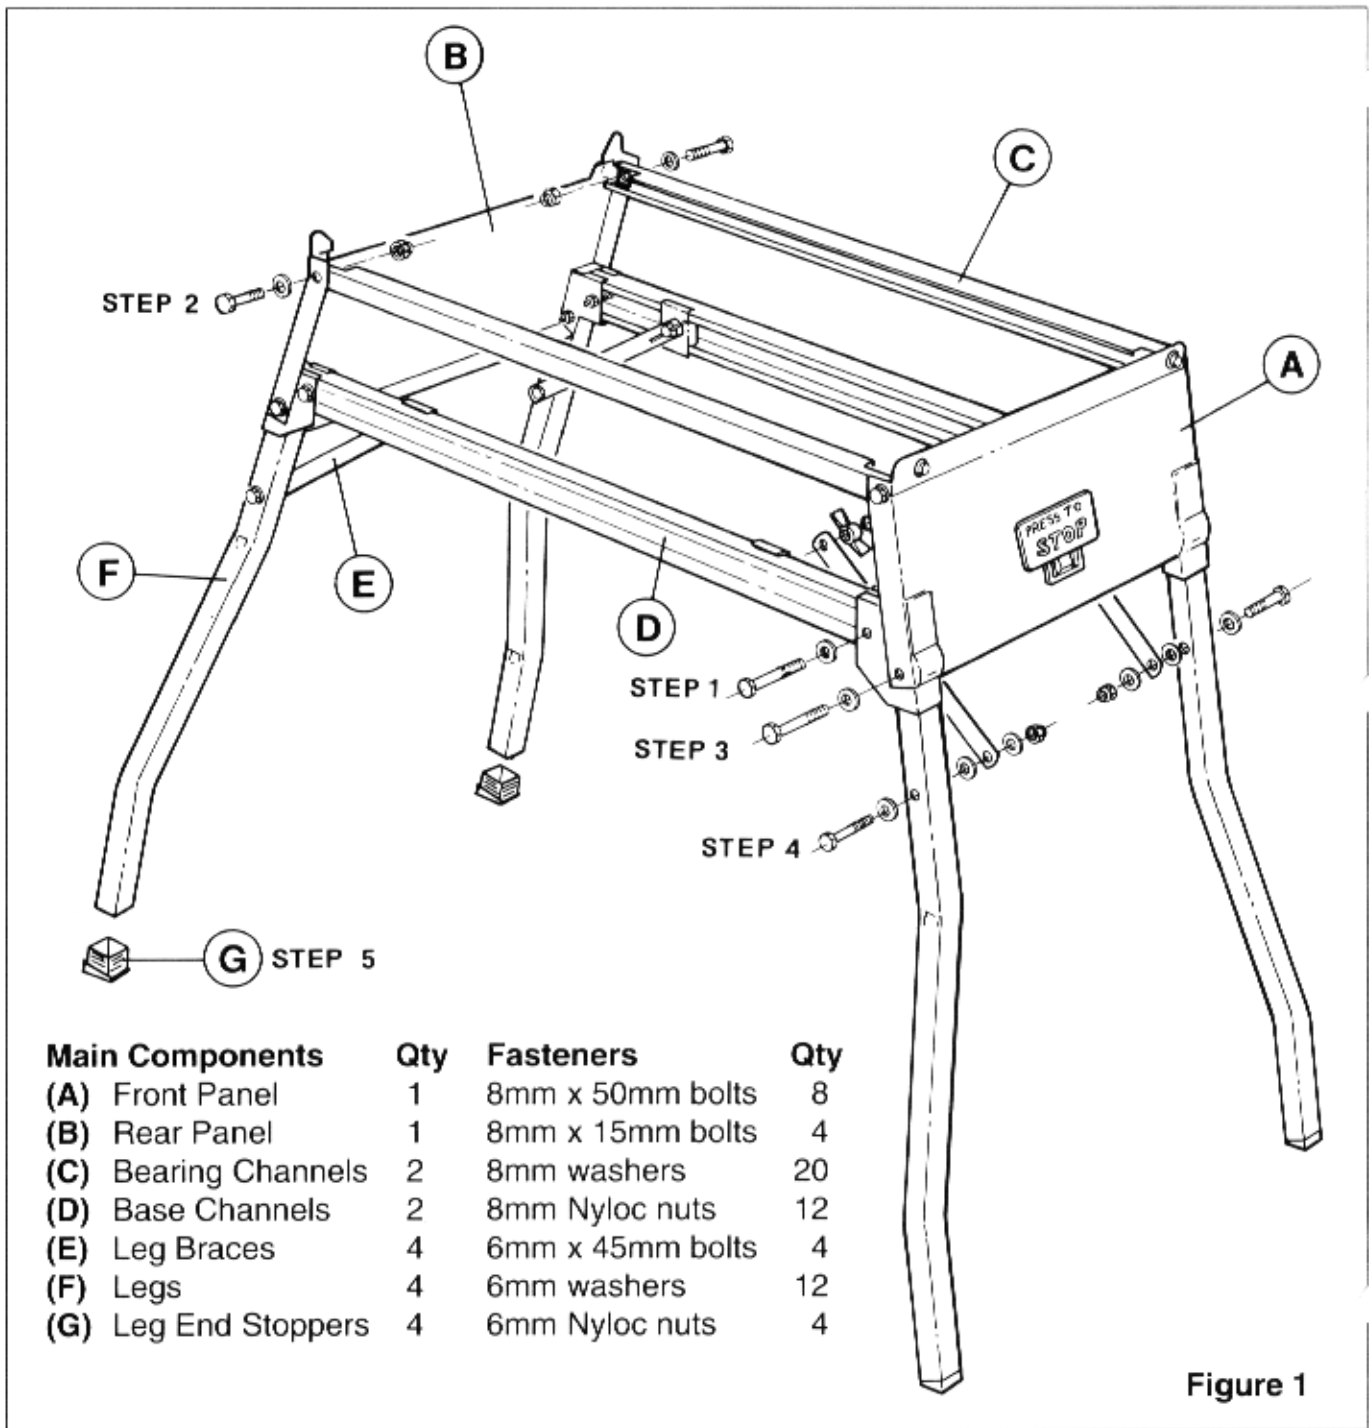

Figure 1
Fit the Base Channels (D) between the Front Panel (A) and the Rear Panel (B) as shown in Figure 1 and fit four 8mm x 50mm bolts where labelled "Step 1".
Turn the unit upside-down for Steps 3 and 4. Fit the four legs (F) as shown in Figure 1, making sure they angle outwards. Fit the remaining 8mm x 50mm bolts where labelled "Step 3". Fit 8mm washers under the bolt heads and also under the Nyloc nuts. Tighten firmly, but make sure you do not overtighten and deform the leg brackets. The legs must be firm, but still free to pivot.
Fold the legs out to the fully open position. Loosen the butterfly handles on the clamps fitted inside the base channels, and swing the Leg Braces (E) into position. Fit the four 6mm x 45mm bolts through the legs and leg braces where labelled "Step 4" on Figure 1.
Lift each leg in turn and fit the Leg End Stopper (G) into the leg, making sure it is angled the correct way as shown in Figure 1. Push the leg down firmly onto the floor to drive the stopper home.